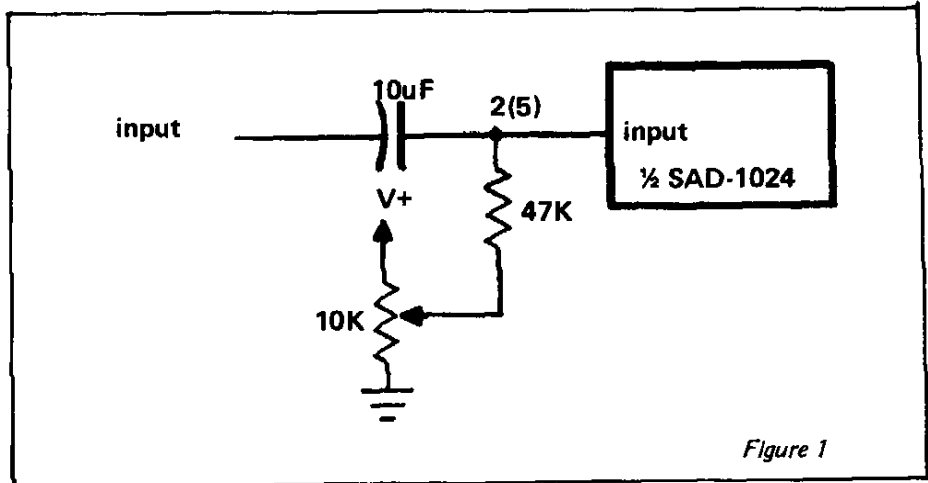

Figure 1
2. In order for the bucket brigade stages to pass information, the input must be biased up to approximately 40% of V_{DD} . In case of a +15V supply, this is +6V. The circuit in Figure 1 should be used to accomplish the biasing.